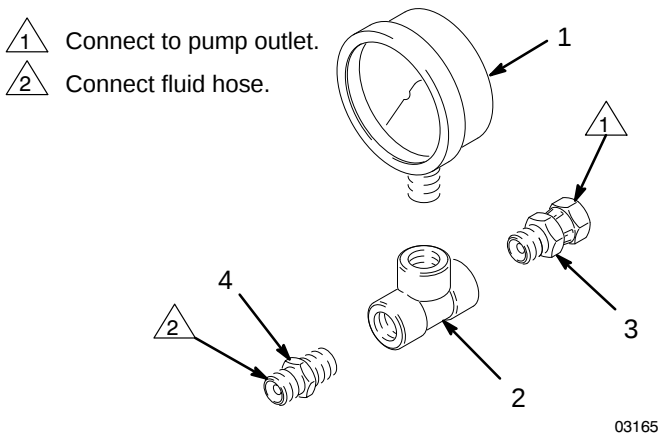

Fig. 1
2. The kit is shipped assembled. Parts are shown exploded in Fig. 1 for clarity. Pipe sealant is not necessary.
3. Screw the swivel (3) onto the outlet of the pump.
4. Connect the fluid hose to the nipple (4).